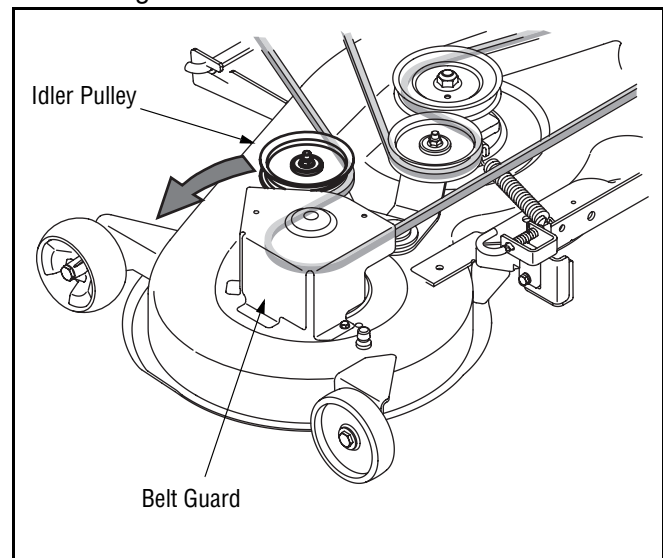

Figure 23
- Carefully grasp the idler pulley and pivot it toward the tractor's left side to relieve tension on the belt. See Figure 23.